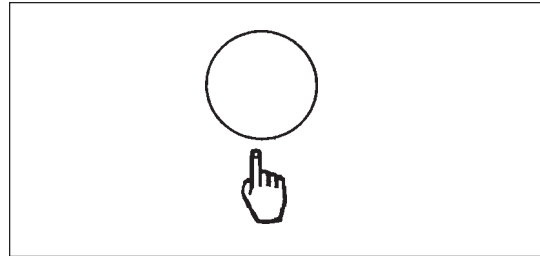

Figure 17
1. Press and hold the green one touch button (figure 17, B) until you hear a *double beep* from the machine. **NOTE: The time required for this will be approximately 15 seconds.**